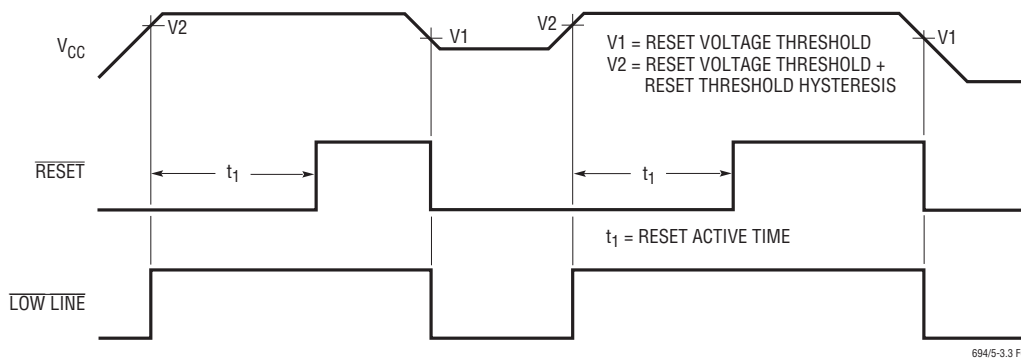

Figure 1. Reset Active Time
**$\overline{LOW\ LINE}$ :** Logic Output from Comparator C1.  $\overline{LOW\ LINE}$  indicates a low line condition at the  $V_{CC}$  input. When  $V_{CC}$  falls below the reset voltage threshold (2.90V typically),  $\overline{LOW\ LINE}$  goes low. As soon as  $V_{CC}$  rises above the reset voltage threshold,  $\overline{LOW\ LINE}$  returns high (see Figure 1).  $\overline{LOW\ LINE}$  goes low when  $V_{CC}$  drops below  $V_{BATT}$  (see Table 1).
The LTC694-3.3/LTC695-3.3 use a bandgap voltage reference and a precision voltage comparator C1 to monitor the 3.3V supply input on  $V_{CC}$  (see the Block Diagram). When  $V_{CC}$  falls below the reset voltage threshold, the  $\overline{\text{RESET}}$  output is forced to active low state. The reset voltage threshold accounts for a 10% variation on  $V_{CC}$ , so the  $\overline{\text{RESET}}$  output becomes active low when  $V_{CC}$  falls below 3.0V (2.9V typical). On power-up, the  $\overline{\text{RESET}}$  signal is held active low for a minimum of 140ms after reset voltage threshold is reached to allow the power supply and microprocessor to stabilize. The reset active time is adjustable on the LTC695-3.3. On power-down, the  $\overline{\text{RESET}}$  signal remains active low even with  $V_{CC}$  as low as 1V. This capability helps hold the microprocessor in stable shutdown condition. Figure 1 shows the timing diagram of the  $\overline{\text{RESET}}$  signal.